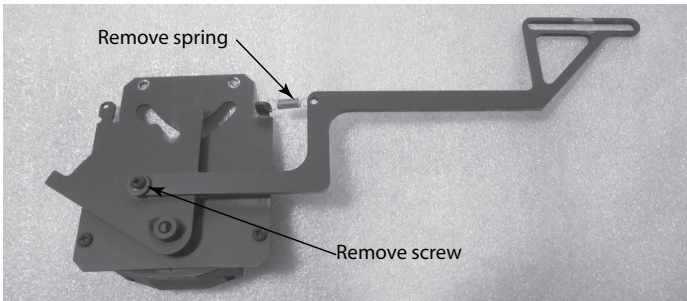

**Figure 4.29 Removal of Screws**
5. While holding on to the timer assembly, remove the two (2) screws, Figure 4.29 and slide the linkage arm off of the rod and pull the assembly out of the front.